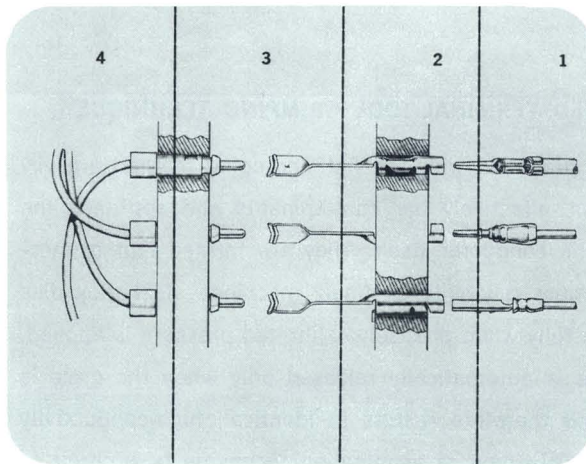

FIGURE 1
The overall reliability of any electrical system depends largely on the mechanical integrity of its various connections. In the AMP Universal Patchcord Systems and Panels there are four such points: (1) wire crimp to LANCELOK Terminal or Taper Pin, either of which connects the rear board of a system to equipment wiring; (2) contact between these terminals and the contact spring; (3) contact between spring and patchcord pin; (4) patchcord pin-to-wire crimped connection. (See figure 1.)